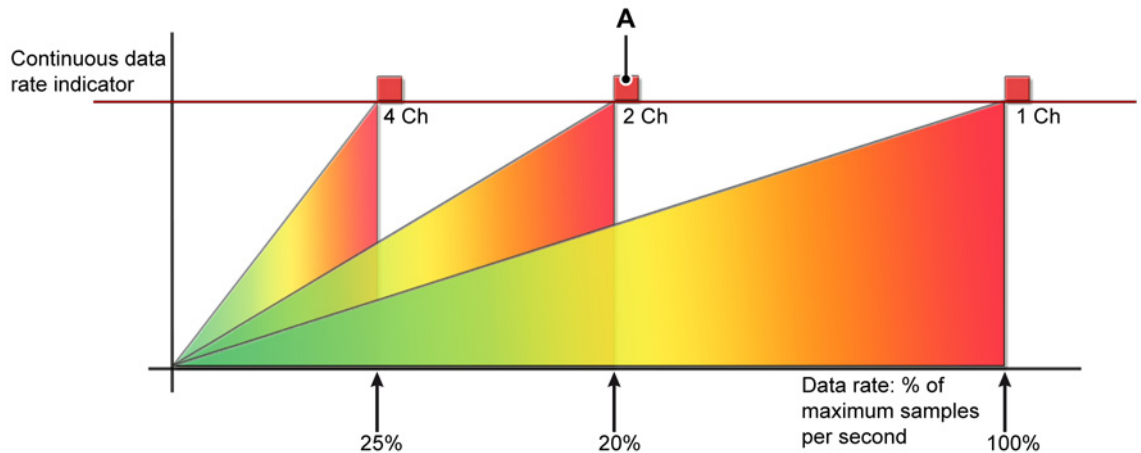

Figure 9.19: Data rate and multiple channels
- The Y-Axis represents the Continuous data rate indicator in Figure 9.19.
Figure 9.19 shows that if four channels of data are being recorded the Continuous data rate will go into the red four times faster at 25% of the maximum data rate where only 1 channel is recording.